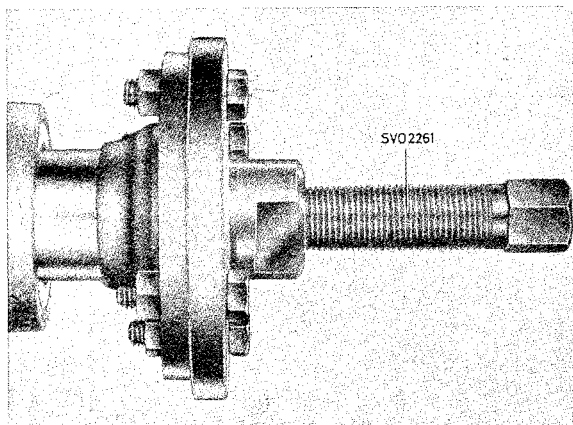

Fig. 4-38. Removing flange
2. Release the nut for the flange. Pull off the flange with puller 2261, see Fig. 4-38.